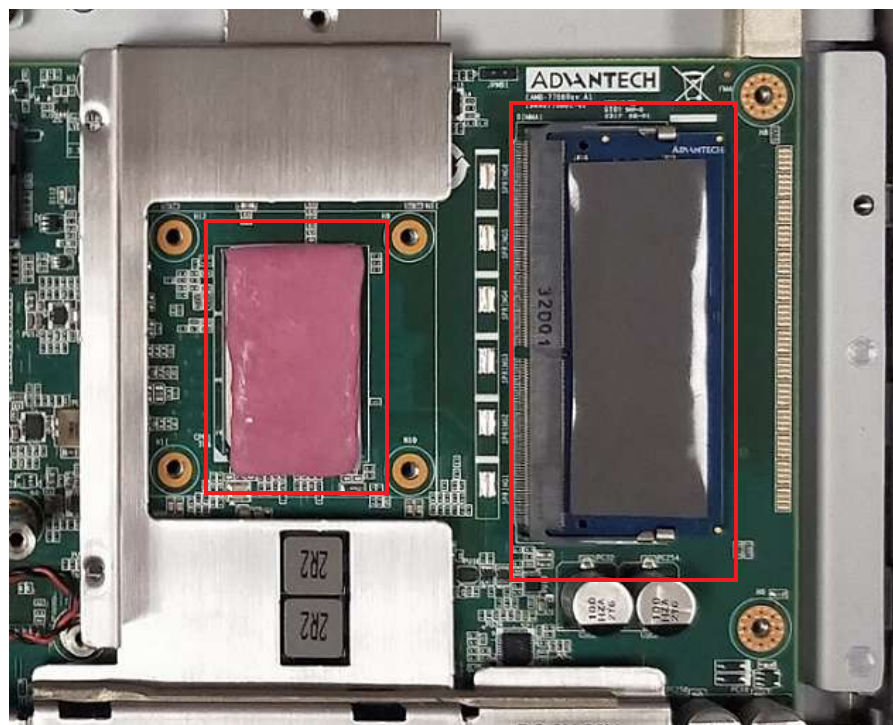

Figure 2.8
- Insert the memory card into the slot (highlighted in the red square in Fig. 2.8). Retrieve the thermal pad provided in the accessory box and install it directly atop the memory card and CPU. Then replace the heatsink.